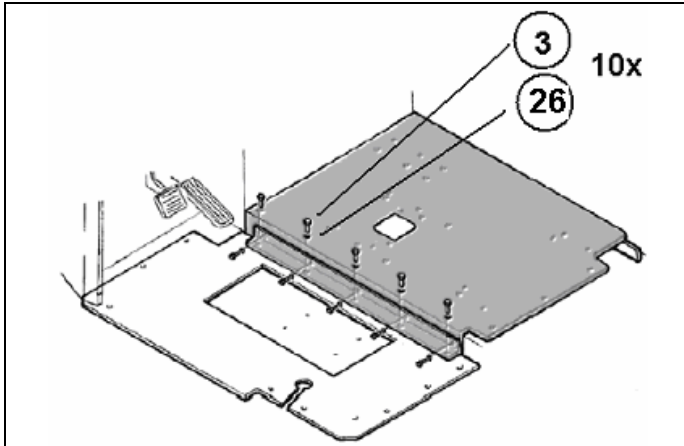

Figure 5-14. Floor Kit Installation (3 of 4).
2. Position bracket #974 between the driver's-side floor panel (#850) and the center panel (#815) as shown in Figure 5-14. Start the fasteners, but do not fully tighten them at this time.